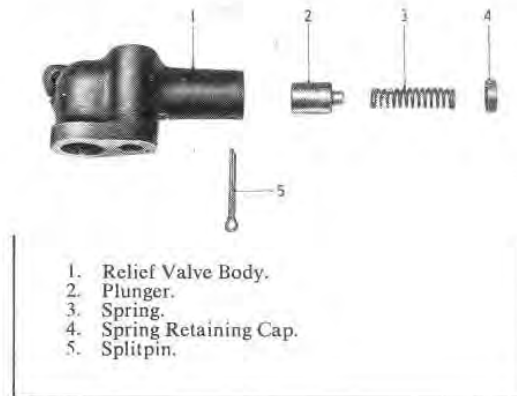

Fig. B62 — Exploded View of Relief Valve
4. Remove the splitpin from the end of the relief valve housing and withdraw the cap, spring and plunger. (Fig. B62).